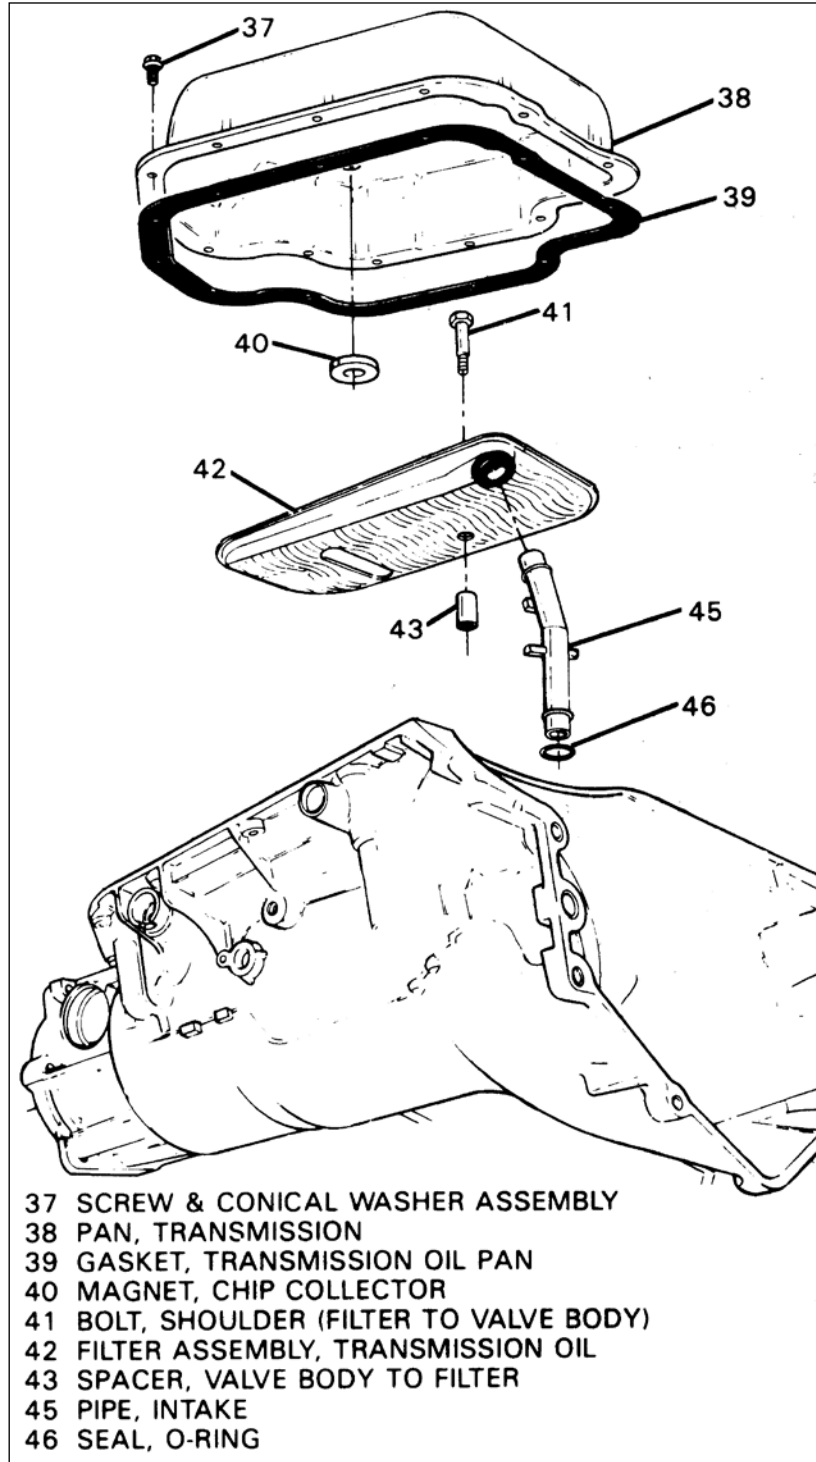

FIGURE 2-17
Remove the oil pan and remove and discard the oil pan gasket (39). On 1968 and later models remove the filter to valve body shoulder bolt (41). If the transmission is equipped with a deep pan, be sure to collect the valve body to filter spacer (43). See Figure 2-17.